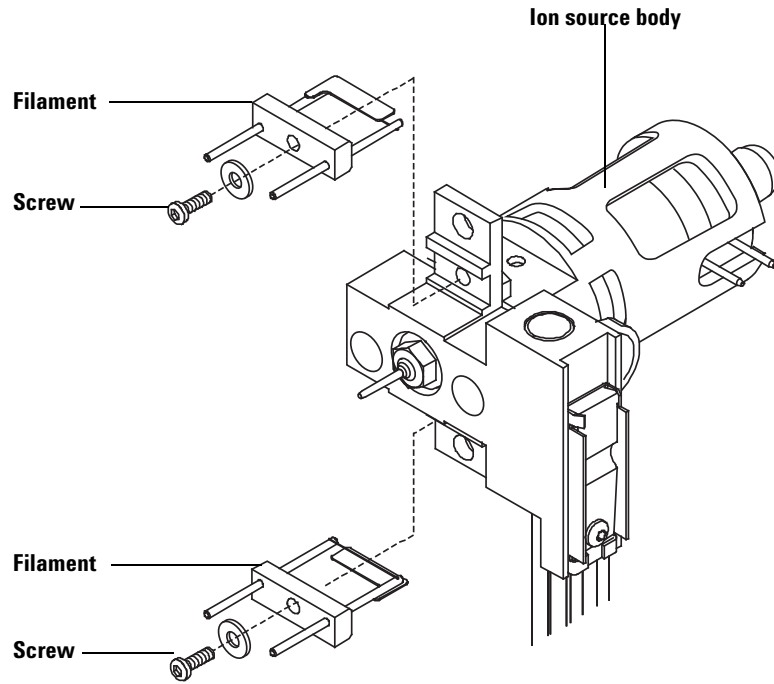

Figure 33 Changing the filament
- 4 Remove the screw holding the filament to the ion source body. (See Figure 33.)
- 5 Slide the filament off the ion source assembly. (See Figure 33.)
- 2 Place the new filament into its position on the ion source body. (See Figure 33.)